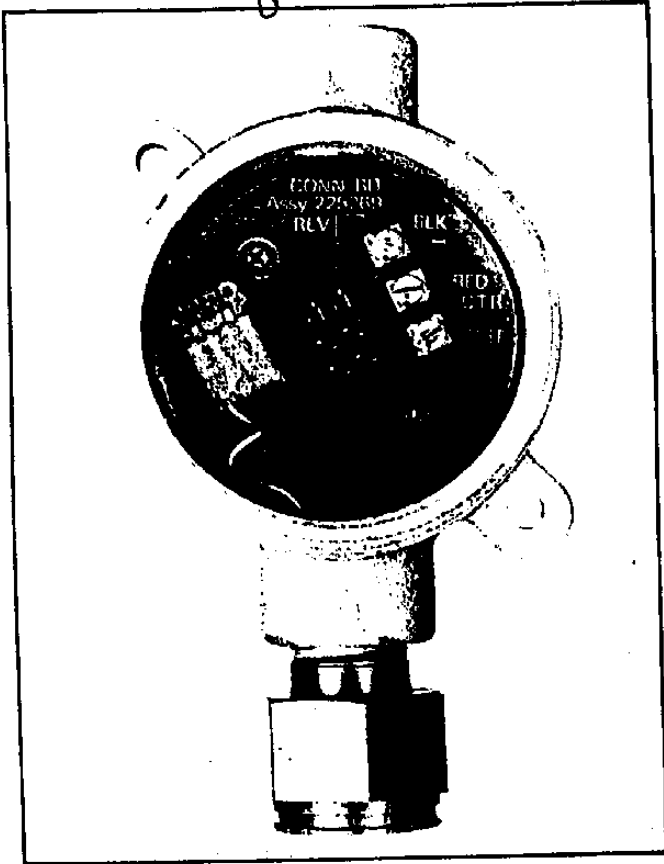

Figure 2-10. Conduit Box and Sensor
2. Screw the sensor into the 3/4-inch opening at the bottom of the conduit box and tighten the sensor securely with a wrench. (See Figure 2-10.) Use a dust cover (available as an option with the 820) over the sensor if the area is dusty. Plug the connector from the sensor into the mating receptacle located on the motherboard bolted to the bottom of the sensor conduit